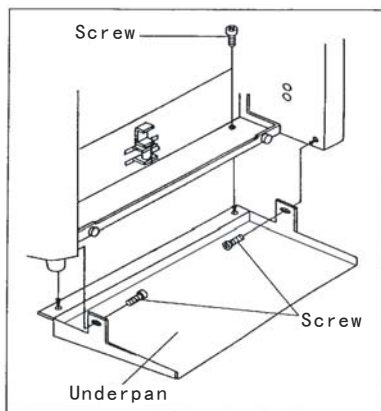

Figure 1
- (1) Mount the plate to prevent the machine from falling (see Figure 1)